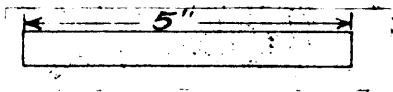
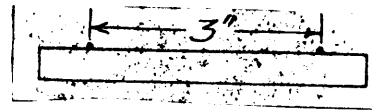

Figure 10.
Figure 11.
7. When upsetting a 5" piece of stock. Figure 10, upset from each end as in Figure 11.